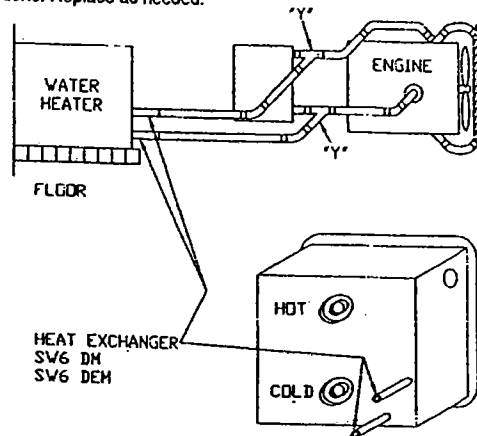

Figure 10
- A. Place copper "Y"s in heater as shown in Figure 10.